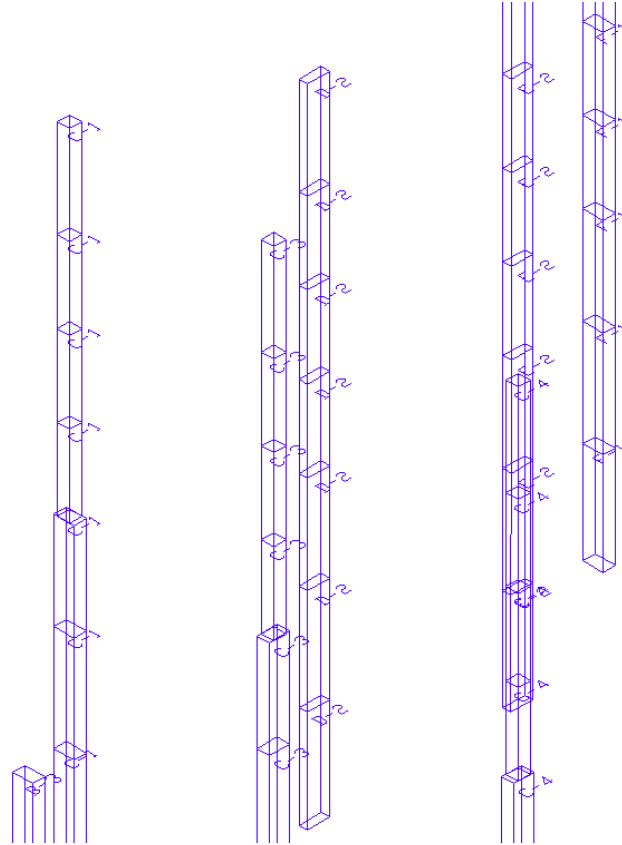

FIGURE 15-7
- Go to *Column Design* → *Visibility* and click on the **Columns Only**  icon to isolate the columns. This allows you to check the column labels and their new assignments. **FIGURE 15-7** shows an example of some of the column stack labels.